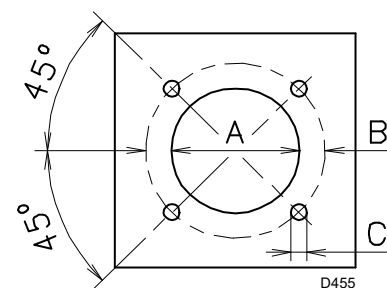

Fig. 11
Pierce the closing plate of the combustion chamber, as in Fig. 11.
- Insert the entire burner on the boiler hole, previously fitted, as in Fig. 11 on page 17, and fix it with the screws supplied.